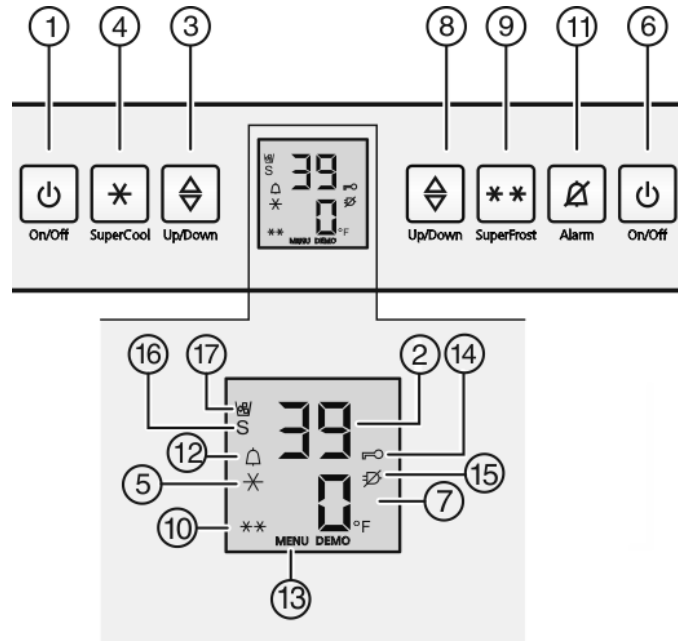

Fig. 3
- ▶ Press the Freezer compartment On/Off button *Fig. 3 (6)*.
- ▶ Press the Fridge compartment On/Off button *Fig. 3 (1)*
- ▶ Activate setting mode: Press SuperFrost button *Fig. 3 (9)* for about 5 seconds.
- ▷ The Menu symbol *Fig. 3 (13)* lights up.
- ▶ Use the Set freezer compartment button *Fig. 3 (8)* to select °.
- ▶ To confirm: Briefly press SuperFrost button *Fig. 3 (9)*.
- ▶ Select °F oder °C with the Freezer compartment set button *Fig. 3 (8)*.
▶ To exit setting mode: Press Freezer compartment On/Off button *Fig. 3 (6)*.
- ▶ To activate setting mode: Press and hold the SuperFrost button *Fig. 3 (9)* for approx. 5 seconds.
- ▷ In the display, the Menu Symbol *Fig. 3 (13)* is displayed.
- ▶ Use the Set freezer compartment button *Fig. 3 (8)* to select c.
- ▶ Confirm briefly by pressing the SuperFrost button *Fig. 3 (9)*.
- ▷ The Child Safety symbol *Fig. 3 (14)* lights up on the display.
- ▶ Press the freezer compartment On/Off button *Fig. 3 (6)* briefly.
- ▶ Press Alarm button *Fig. 3 (11)*.